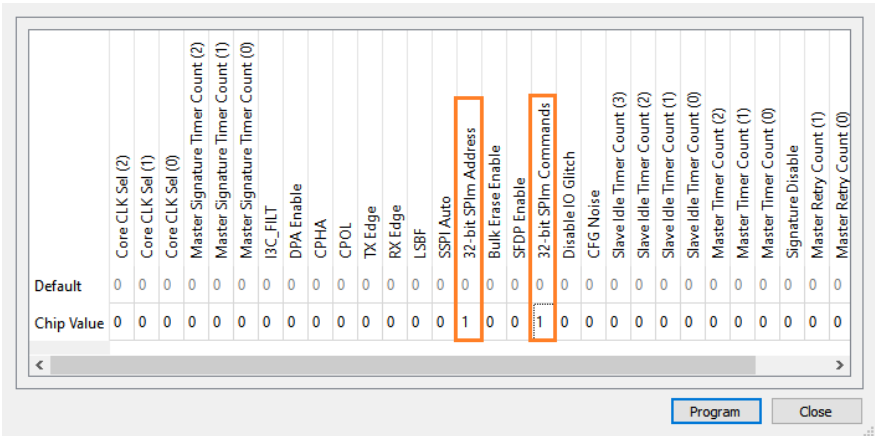

Figure B.3. Radiant Programmer – Configure NV Register 1 Setting: Change Chip Value
- 3. Change the bit 0 to 1 as shown in Figure B.3.